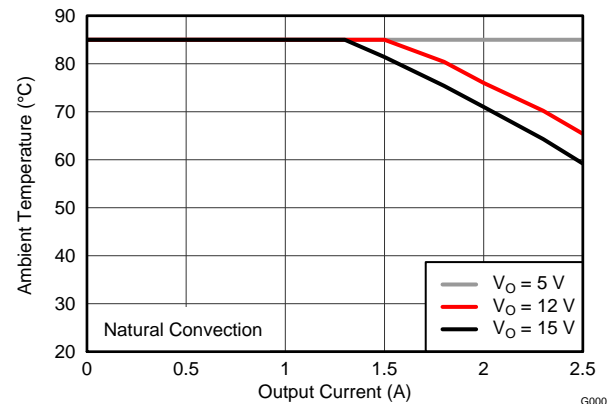

Figure 23. Safe Operating Area
- (3) The temperature derating curves represent the conditions at which internal components are at or below the manufacturer's maximum operating temperatures. Derating limits apply to devices soldered directly to a 100 mm  $\times$  100 mm double-sided PCB with 1 oz. copper. Applies to Figure 23.